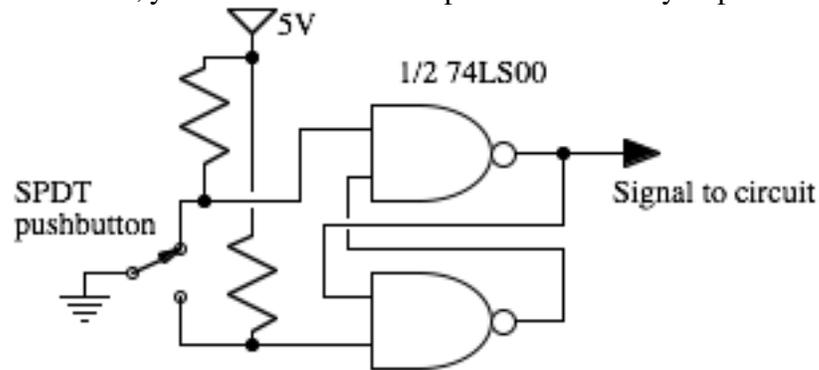

Figure 10 “Debounced” pushbutton circuit that you can use as a slow clock
- 4) Try substituting a slow “clock” for your normal clock, so that transitions happen slowly enough for you to see, and you can probe different points using your meter or an LED probe. (However, probing sensitive points can sometimes create a glitch just from the stray capacitance.) A useful slow pushbutton clock can be formed from two NAND gates (or AND + Invert) as shown in Figure 10. If you do not have a SPDT pushbutton, ask for one. If none is available, you can use two SPST pushbuttons that you push alternately.